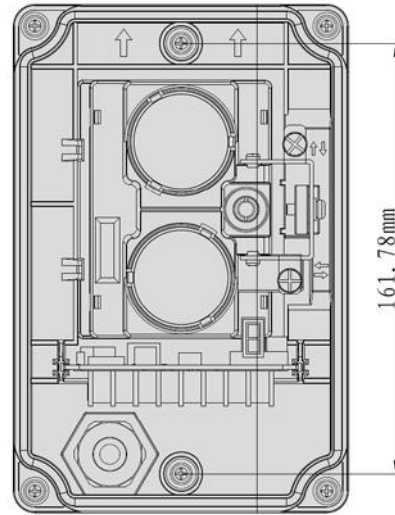

Figure 5: Beam Detector
4. Fix the detector base onto the bracket using two M4x12x10 standard screws. Refer to Figure 5.